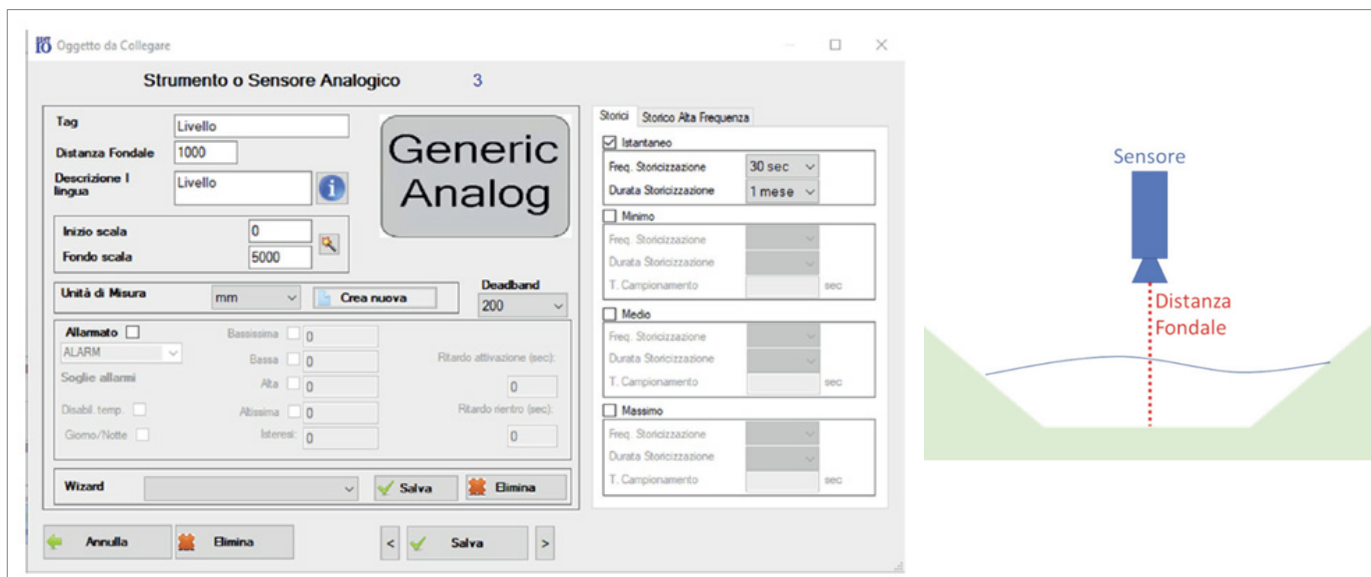

Fig. 8.30. Configuration of the flow rate variable
1. Indicate in 'Bottom Distance' the distance between the level transmitter and the bottom (in mm) as shown in Fig. 8.30.
Add 55mm to the resulting measurement. The value thus obtained will be the 'Bottom Distance' value to be set on the screen in Fig.8.30. as seen above.